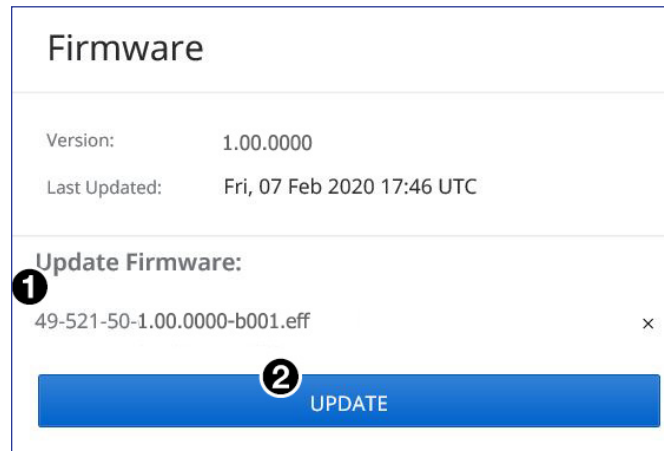

Figure 71. Firmware Panel - Update
5. Click **Open**. The window closes and the **Firmware** panel opens showing the firmware file in the file name field (see figure 71, **1**).